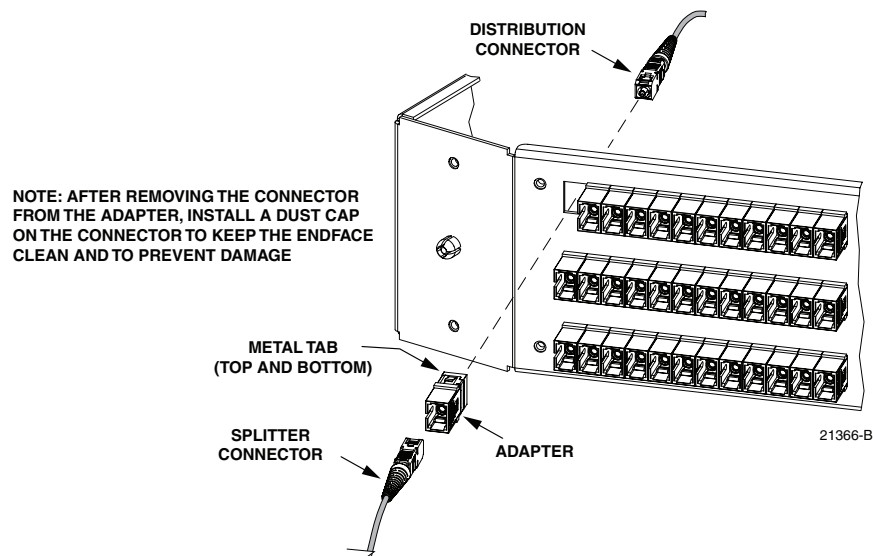

Figure 48. Adapter Removal and Replacement - Typical Distribution Panel
1. Disconnect the splitter connector from the front side of the broken adapter as shown in Figure 48 and install a dust cap on the connector.